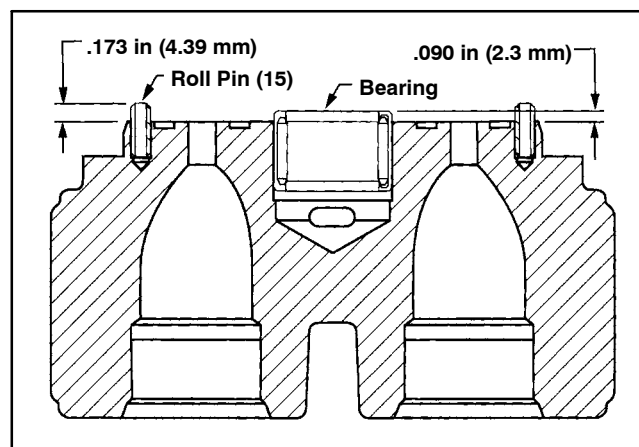

Figure 76
2. If necessary, install new needle bearing (17) in housing (3) with numbered end of the bearing outward.
3. Install retaining ring (9) on shaft. Install thrust race (10), thrust bearing (13), and second thrust race (10). Secure with second retaining ring (9).
4. Install shaft in housing. Install washer (18), new shaft seal (8), and retaining ring (6).
5. Install camplate insert (5) with the lettering side of insert to the front of the housing. Use petroleum jelly to hold in place during assembly.
6. Install rotating assembly (4) into housing. Make sure that piston shoes make contact with the camplate insert.
8. If roll pins were removed, install to dimension shown in Figure 76 and with opening of roll pin oriented away from bearing within 5° of bearing center line.
9. To replace bearing (16) in backplate (2). Press bearing down to the dimension shown (Fig. 76) protruding from backplate with numbered end of bearing facing up next to valve plate.